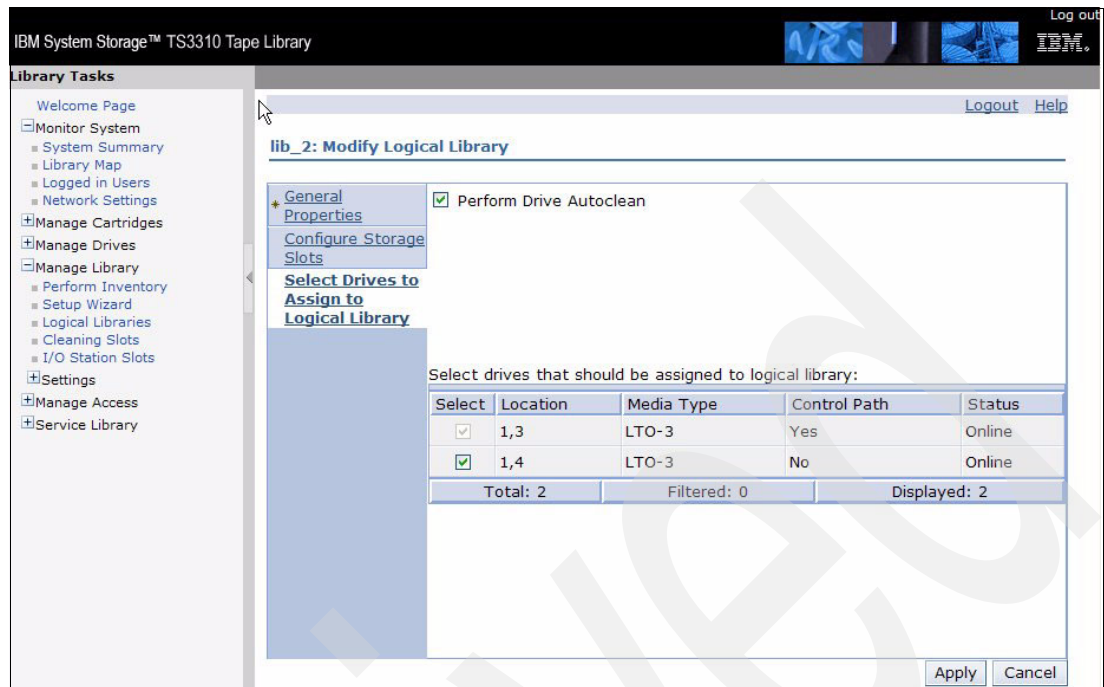

Figure 2-14 Modify a logical library
3. From the drop-down menu, select **create** to add new logical libraries, or **modify** to change a defined library. Modify will give you several choices; see Figure 2-14. You can modify general properties, change storage slots, and assign tapes. Click **Apply** to activate.